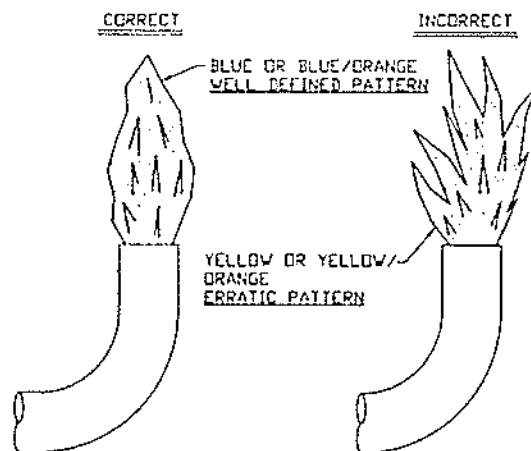

Figure 6
A. Main Burner - Do not allow the burner to burn with a yellow flame, because sooting will occur. (See safety warnings.) If the burner flame is yellow and has an erratic pattern, shut unit down and contact a qualified service agency. Do not continue operating unit with improper burner flame. See Figure 6 for correct and incorrect burner flame appearance.